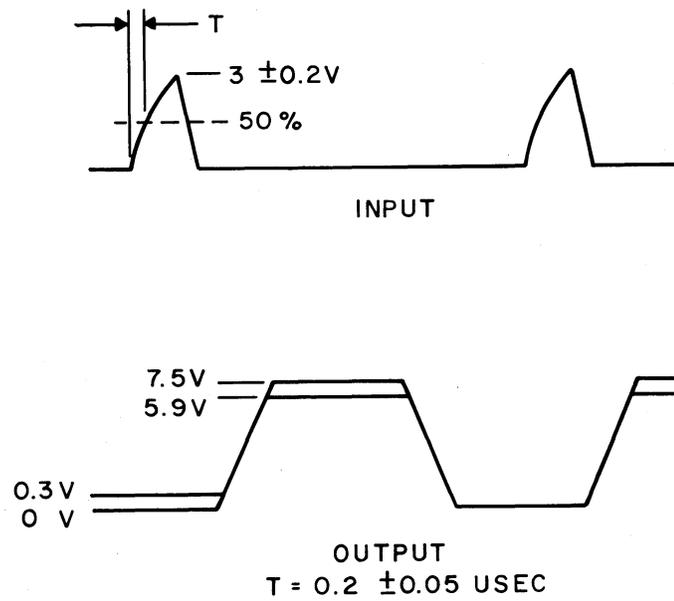

Fig. 31 - (Monopulser Card Test)
- (1) Set the NORMAL-DEGRADED selector to DEGRADED.
- (2) Adjust potentiometer P1 until the amplitude of the input test pulse on J8 is 3.0 ± 0.2 volts on the oscilloscope. The input test pulse should appear as in Fig. 31.
- (3) Rotate the INPUT selector through positions 1 to 6. The output pulse on J3 should appear as in Fig. 31. Time base measurements need not be made on the output wave form.